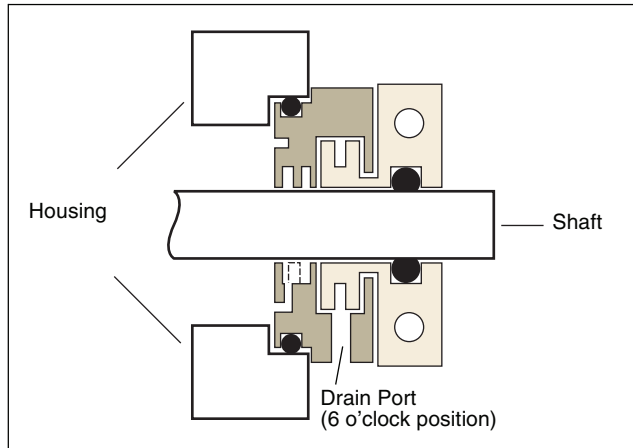

Figure 8-3. Proper Installation
- Place the two halves of the stator over the rotor at the bore side so they interlock with the rotor. Rotate the stator until the drain port is at the six o'clock position. While holding the parts together by hand, wrap the long O-ring into the stator O-ring groove with the ends of the O-ring meeting at the 12 o'clock position. Gently slide the seal into the bore while keeping the O-ring in the groove (see **Fig. 8-3**).